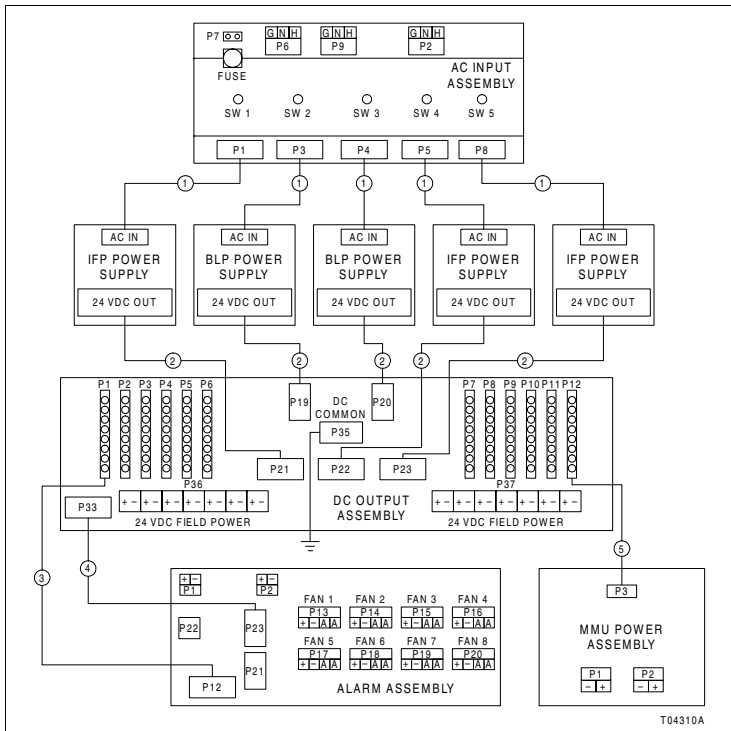

Figure PR6-1. Power System Cable Connections
- Figure PR6-1 shows the required power system cable connections and Table PR6-1 lists the cables. The circled numbers shown in Figure PR6-1 correspond to the numbers listed in the **Cable No.** column of Table PR6-1. Make the necessary cable connections according to Table PR6-1 and Figure PR6-1.